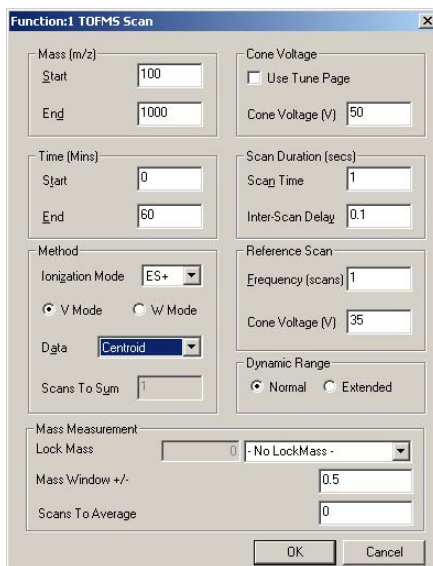

Figure 4-2 TOFMS Scan Dialog Box
6. Click MS Scan to open the TOFMS Scan dialog box. Enter the values as shown in Figure 4-2 and then click OK.